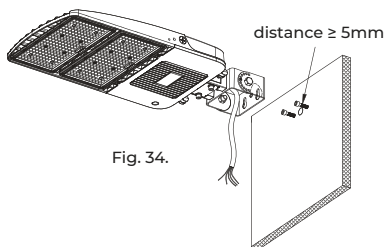

Fig. 34.
5. Install the bracket onto the screw head and tighten the screw with a wrench as shown in Fig. 34.